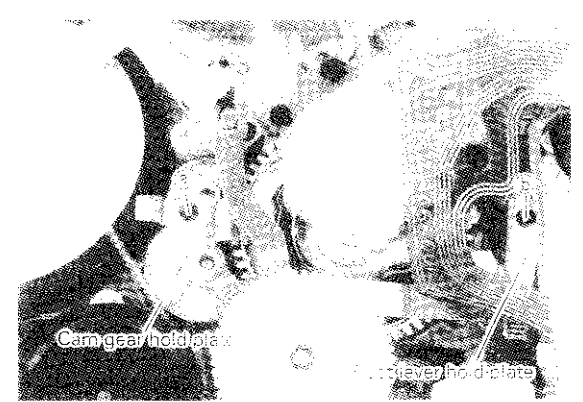

Fig. 3-22-10
- (1) Match the positioning pin of the cam gear with the positioning hole of the main plate.
- (2) Turn the cam gear to the left until the stopper pin is in the hole, and then attach the hold plate to the main plate, then fix with the fixing screw (a) (Fig. 3-22-10).
- (3) Attach the eject lever hold plate to the main plate, and fix with the fixing screw (b) (Fig. 3-22-10).